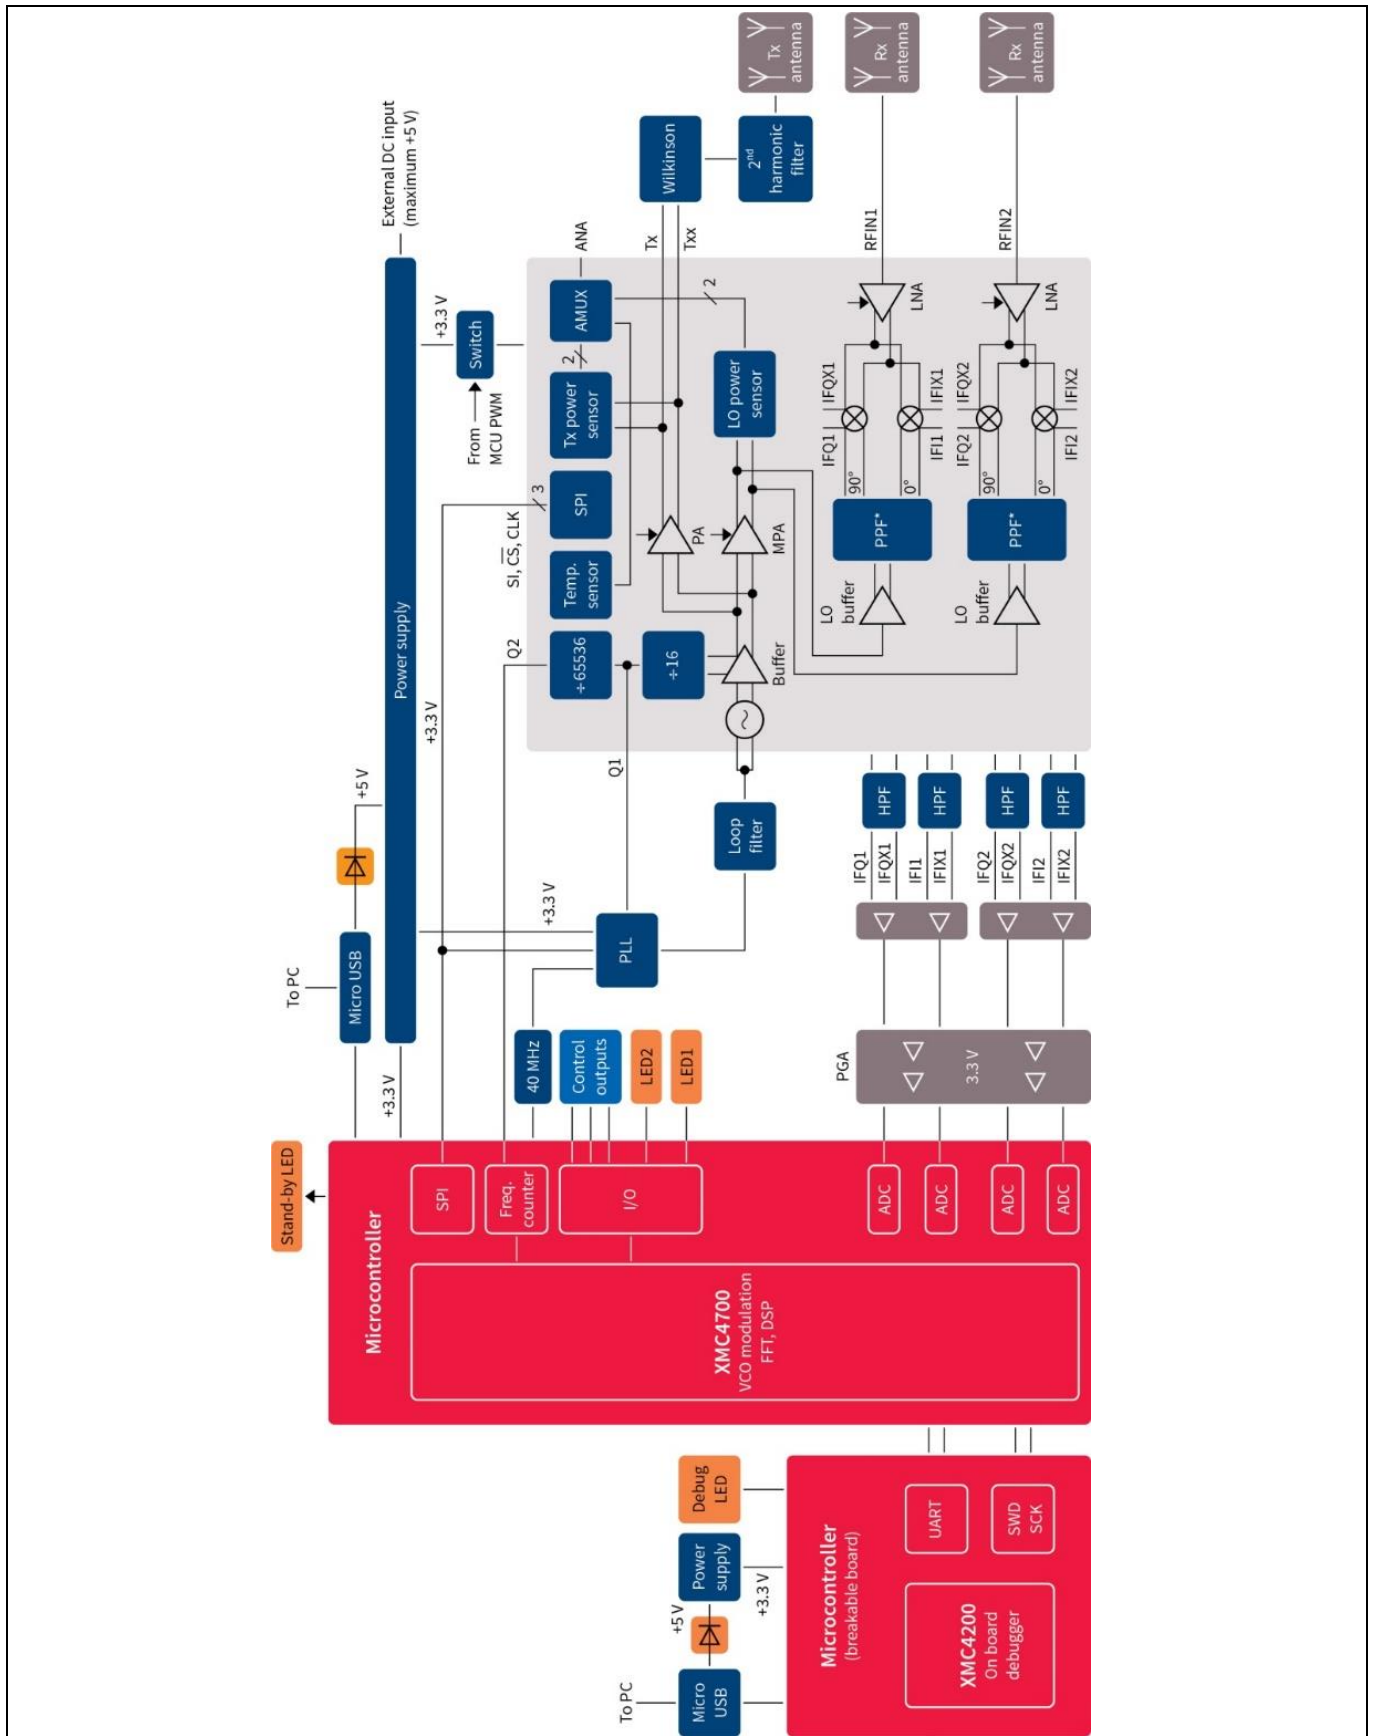

Figure 3 Position2Go demo board block diagram
Figure 3 shows the block diagram of the demo board. The board is split into a main RF unit and a breakable debugger unit for programming. The RF unit consists of the highly integrated 24 GHz transceiver MMIC BGT24MTR12 with 1 TX and 2 RX. The MMIC features an integrated Voltage Controlled Oscillator (VCO), Power Amplifier (PA), integrated temperature and power sensors, prescalers and IQ receivers.